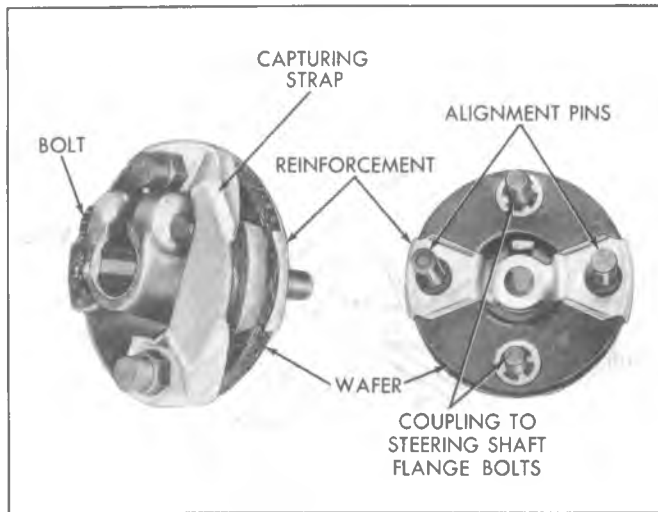

Fig. 3B4-22--Flexible Type Steering Coupling
4. Using tool J-2927, thread puller anchor screws into holes provided on steering wheel. See Fig. 3B4-21. Turn center bolt of tool clockwise to remove wheel.